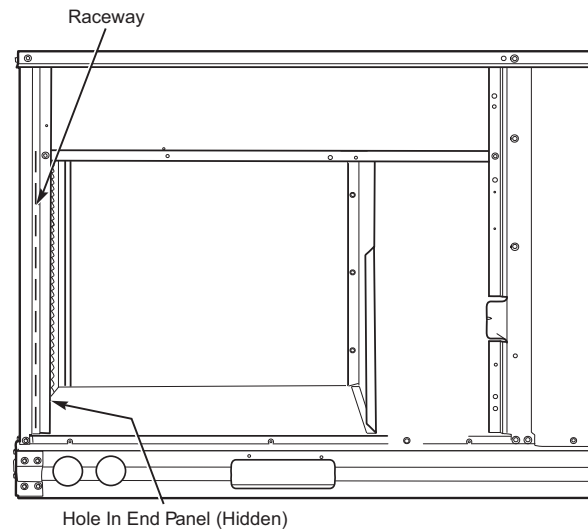

Fig. 30 — Field Control Wiring Raceway
The 50GE unit requires an external temperature control device. This device can be a thermostat (field-supplied) or a SystemVu™ controller (available as factory-installed option, for use on a Carrier Comfort Network® or as a stand-alone control). All field added wire must comply with UL and local NEC standards. See Units Without Thru-Base Connections, above and use routing path shown in Fig. 30 to help with compliance as needed.
Pass the thermostat control wires through the hole provided in the corner post; then feed the wires through the raceway built into the corner post to the control box. Pull the wires over to the terminal strip on the upper left corner of the Unit Control Board or on the bottom left corner of the Main Base Board (MBB) on units with SystemVu. See Fig. 30.
Pass the thermostat control wires through the hole provided in the corner post; then feed the wires through the raceway built into the corner post to the control box. Pull the wires over to the terminal strip on the upper left corner of the Unit Control Board or on the bottom left corner of the Main Base Board (MBB) on units with SystemVu controller. See Fig. 30.
2. Feed wires through the raceway built into the corner post (see Fig. 30) to the 24 v barrier located on the left side of the control box. The raceway provides the UL-required clearance between high-voltage and low-voltage wiring.